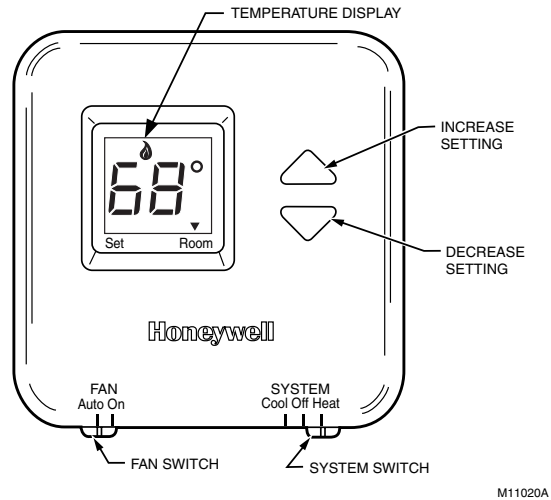

Fig. 17. T8400 and T8401 temperature display and system switches.
Fan and system settings are controlled manually using the switches located at the bottom of the thermostat case. See Fig. 17 or 18.
1. Select Heat or Cool by sliding the system switch in the lower right corner of the thermostat to the desired mode. See Fig. 17 or 18.